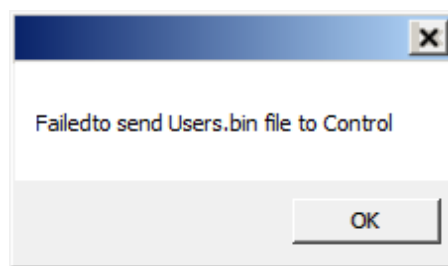

Figure 3-11 Failed to Send Users.bin File to Control Confirmation Screen
5. If IPScom returns a "Failed to send Users.bin file to Control" confirmation (Figure 3-11), then select **OK** and repeat Steps 2 through Step 4.